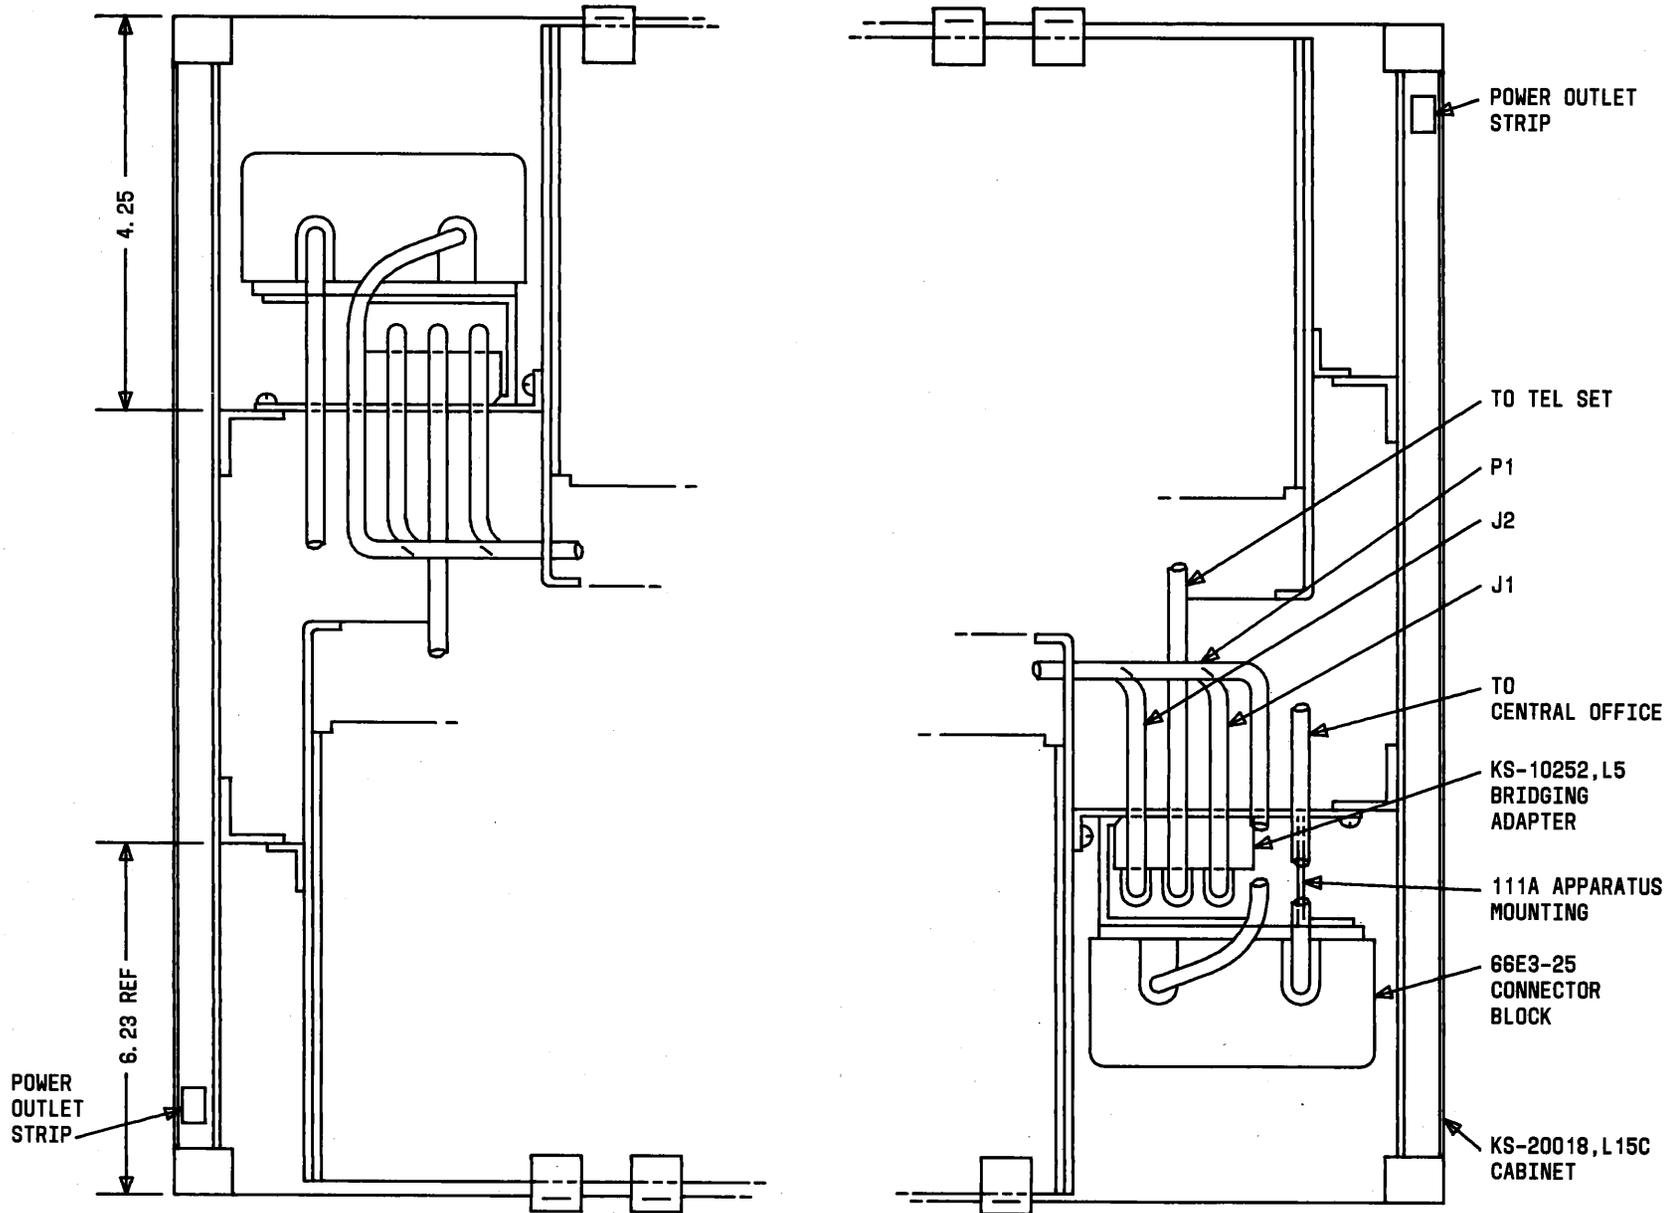

Fig. 6—Top View of KS-20018-L15C Cabinet Equipped With Back-to-Back Mounted 40A3 Data Mountings
**2.26** The 40A3 data mounting can be mounted back-to-back in a KS-20018-L15 cabinet (Fig. 6). In this configuration, the EIA connector panel must be arranged for front access. In this configuration an additional two L-163527 uprights (ordered separately) are required. Because of restricted access, it is recommended that the power cord of each 40A3 be plugged into the outlet strip as the 40A3 is installed in the cabinet.